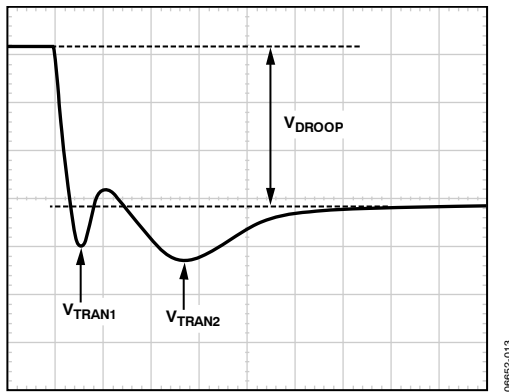

Figure 16. Transient Setting Waveform
1. With the dynamic load set at the maximum step size, expand the scope time scale to either 2 μs/div or 5 μs/div. This may result in a waveform that has two overshoots and one minor undershoot before achieving the final desired value after V_{DROOP} (see Figure 16).